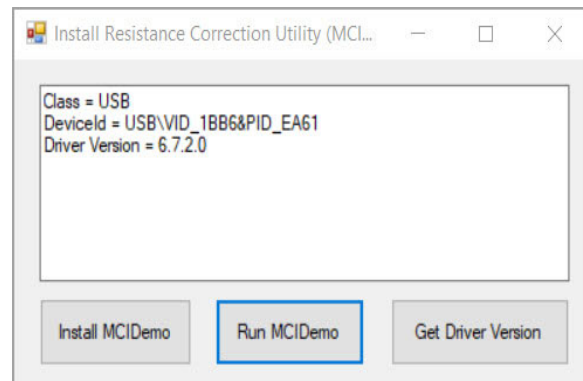

Figure 2
7. After a short delay the utility will communicate with the tester automatically. Driver details will populate the Correction Utility Window. Shown in Figure 2.